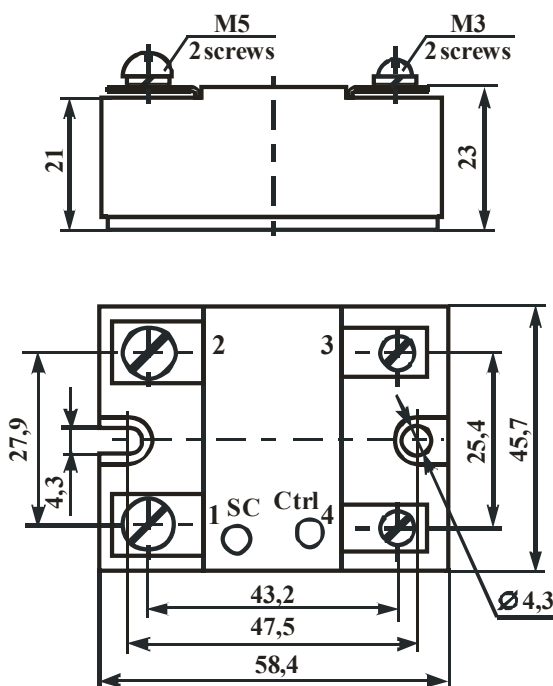

Figure 6.5 – Overall drawing of modules MT14PT, MT15PT with maximum current up to 80 A
**2MT14PTA(B)-PP5** – a module based on MOSFET-transistor shunted with a reverse fast-recovery diode in a housing corresp. to Fig.6.5 with inbuilt protection circuits.